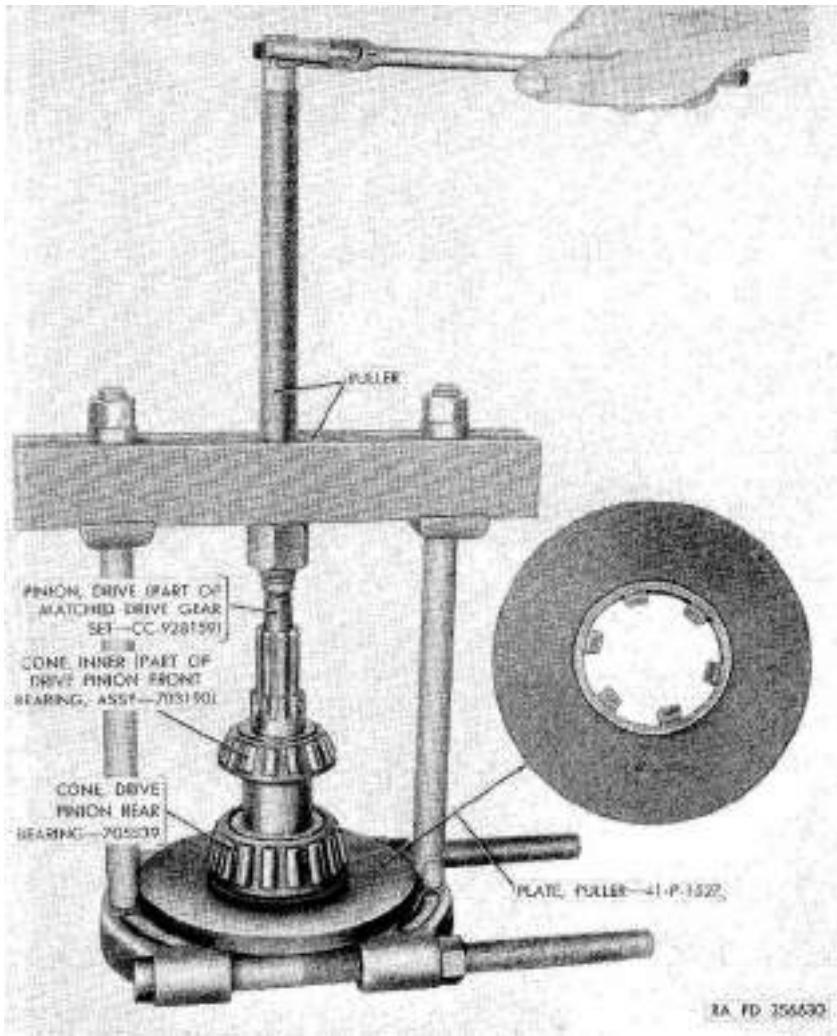

Figure 81. Removing drive pinion bearing cones with puller and puller plate 41-P-1527.
c. *Disassemble Drive Pinion.* Remove drive pinion rear bearing cone (YY), drive pinion bearing spacer (U), and drive pinion front bearing inner cone (R) with puller and puller plate 41—P-1527 (fig. 81).